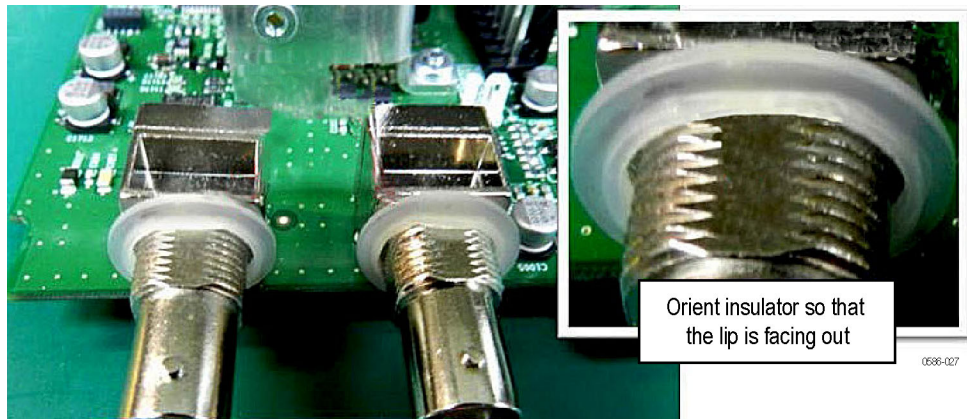

Figure 18: Correct orientation of BNC insulator
- Correctly orient the plastic BNC insulator on each BNC before you install the front chassis. (See Figure 18.)
- Correctly orient the plastic BNC insulator on each front BNC before you install the Main board in the chassis. (See Figure 18 on page 50.)